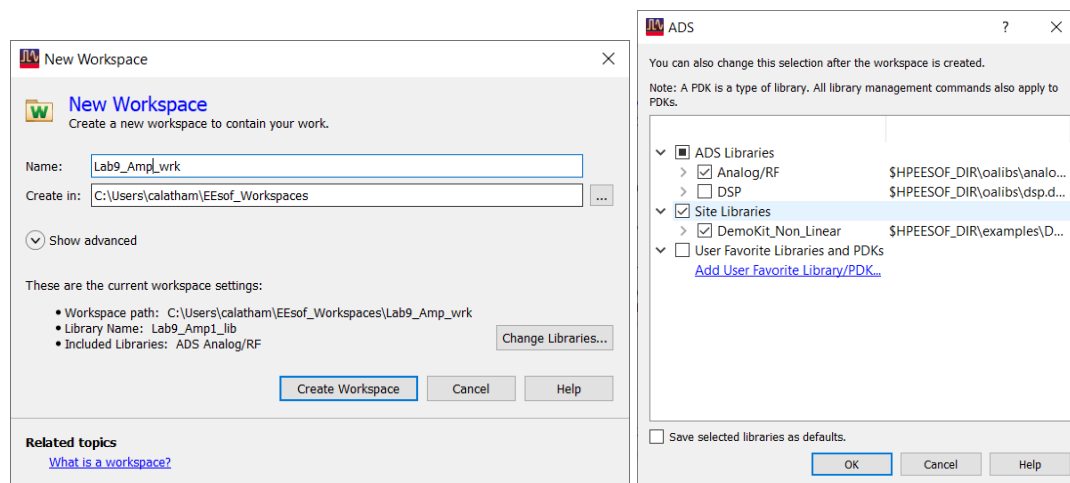

Figure 1. New workspace and library selection windows
2. Click on Change Libraries. Ensure that both **Analog/RF** and **DemoKit_Non_Linear** are selected. Click OK and **Create Workspace**. The workspace and library windows are shown in Figure 1.